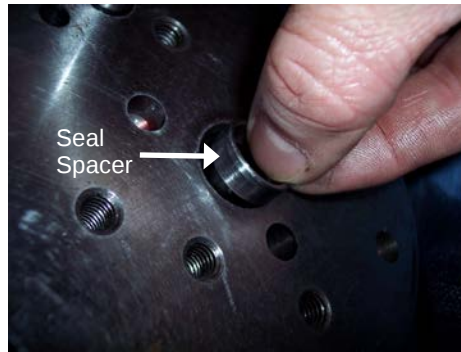

Figure 6 Seal spacer on port plate
- 6) Pull spacer from the seal port **(See Figure 6)**.